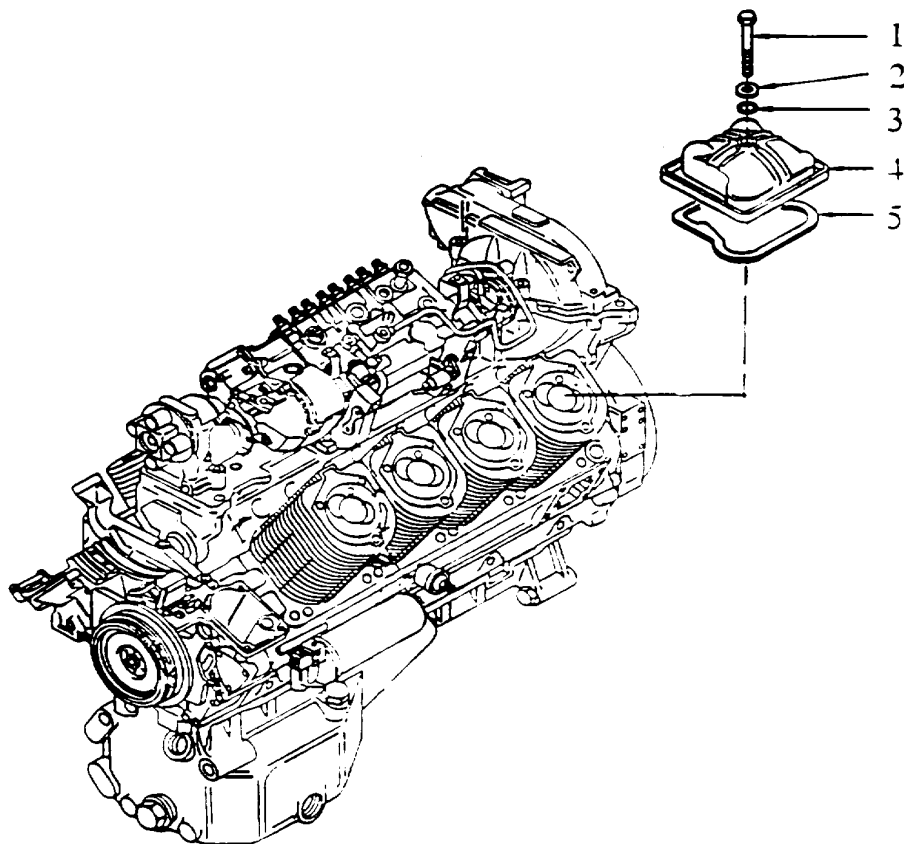

Figure 5-56
1. Remove eight screw caps (1. figure 5-56), eight packing preform (2), eight O-ring (3), eight valve cover (4), and eight gaskets (5).
1. Replace O-ring (3, fig 5-56) and gasket (S5) with new ones.
2. Install valve cover (4), packing perform (2), and screw cap (1).